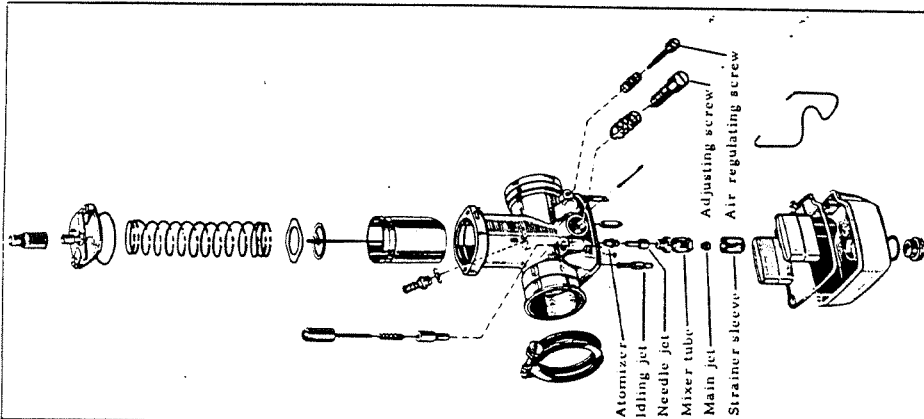

Fig. 20
5. Refit throttle flap and screw carb. cover in place. *Important:* Check that throttle wire and adjusting screw are correctly located. See Fig. 20 and 22.